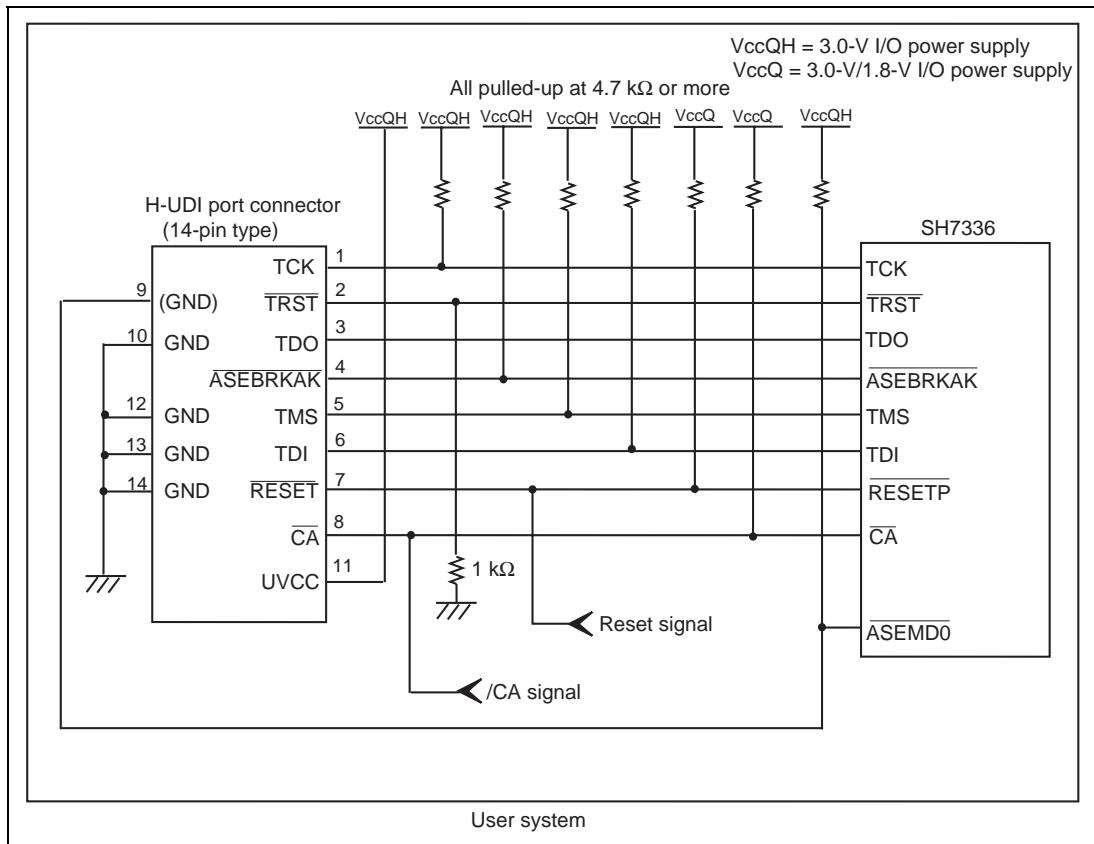

Figure 1.4 Recommended Circuit for Connection between the H-UDI Port Connector and MPU when the Emulator is in Use (14-Pin Type UVCC Connected)
Figure 1.4 shows a recommended circuit for connection between the H-UDI and AUD port connectors (14 pins) and the MPU when the emulator is in use.
- (1) When the emulator is used: $\text{/ASEMD0} = 0$
- (2) When the emulator is not used: $\text{/ASEMD0} = 1$Figure 1.4 shows an example of a circuit that allow the /ASEMD0 pin to be GND (0) whenever the emulator is connected by using the user system interface cable. When the /ASEMD0 pin is changed by switches, etc., ground pin 9. Do not connect this pin to the /ASEMD0 pin.
8. Since the H-UDI and the AUD of the MPU operate with the VccQH , supply only the VccQH to the UVCC pin. Make the emulator's switch settings so that the VccQH will be supplied ($\text{SW2} = 1$ and $\text{SW3} = 1$) (as shown in figure 1.4).
When the circuit is connected as shown in figure 1.4, the switches of the emulator are set as SW2 = 1 and SW3 = 1. For details, refer to section 3.8, Setting the DIP Switches, in the Debugger Part of the SuperH™ Family E10A-USB Emulator User's Manual.